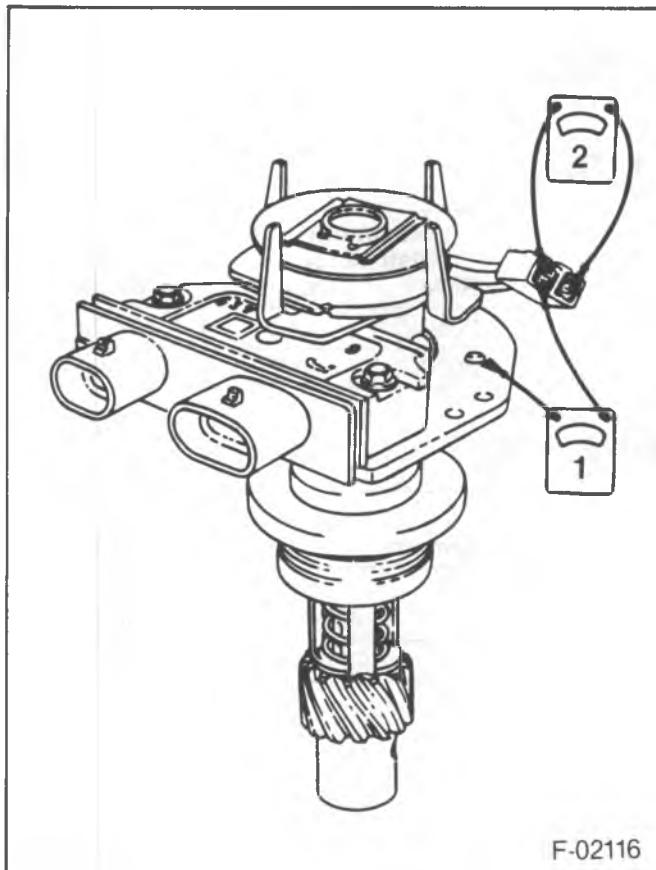

Figure 27—Testing the Pickup Coil
- Connect an ohmmeter to either pickup coil lead and the housing as shown in figure 27, step 1. The reading should be infinite. If not, replace the coil.
- Connect an ohmmeter to both pickup coil leads as shown in figure 27, step 2. Flex the leads by hand at the coil and the connector to locate any intermittent opens. The ohmmeter should read a constant unchanging value in the 500 to 1500 ohm range. If not, replace the coil.